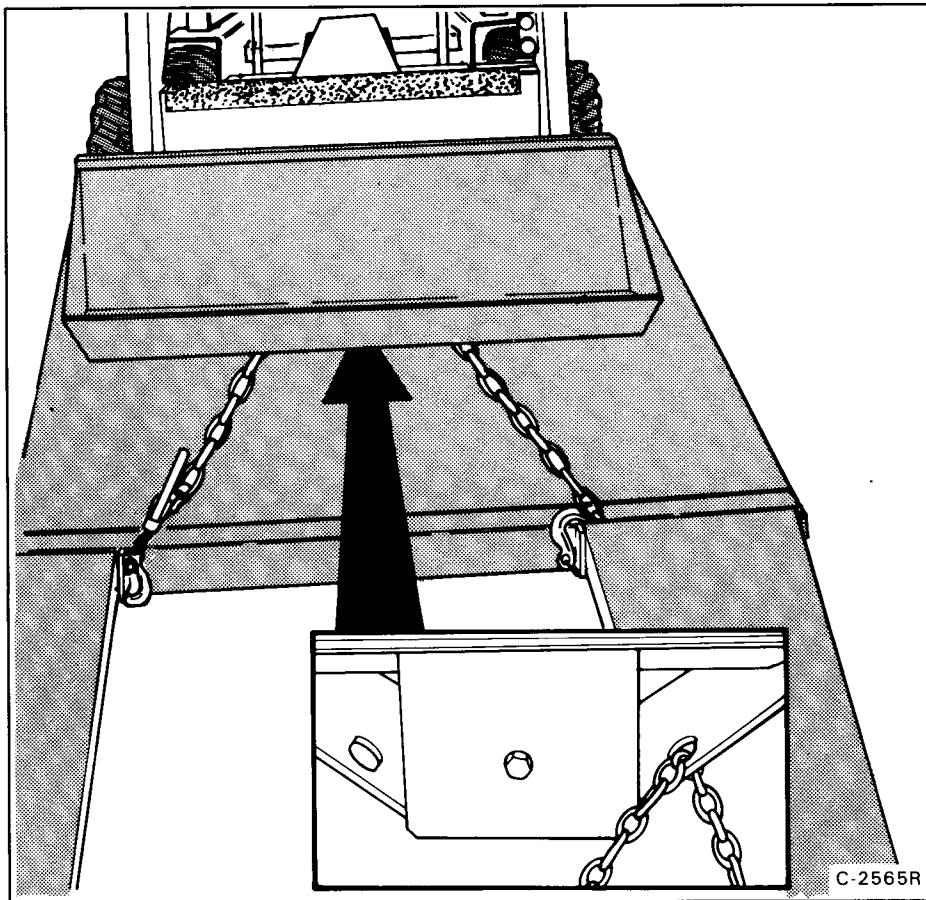

Fig. 32 Fastening the Loader
4. Put a chain through the axle gusset and fasten to the Bobcat loader and to the trailer (Fig. 32).